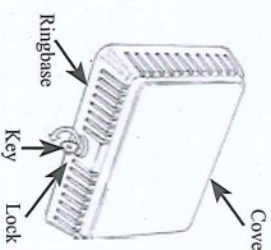

Figure 3
8. Lock the thermostat guard by turning the key (provided) counterclockwise. See Figure 3.
- Lock the thermostat guard by turning the key (provided) counterclockwise. See Figure 3.